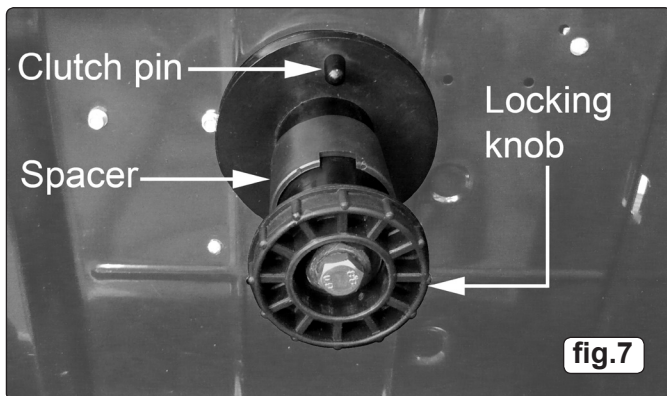
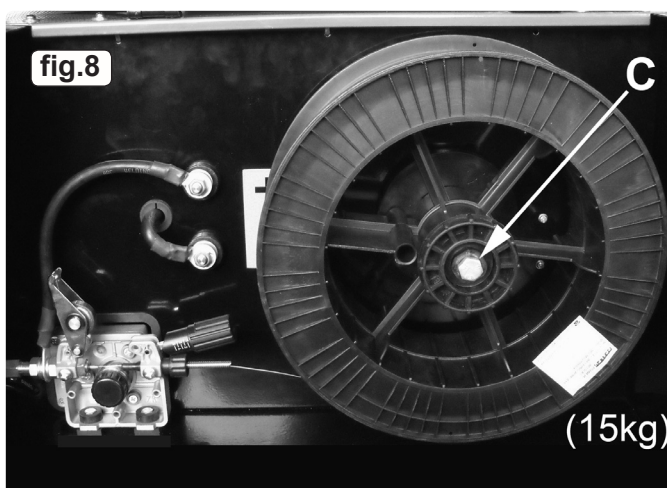

fig.7
fig.8
3.9.1 Unscrew the locking knob from the end of the spool holder (see fig.7) and remove the spacer. Slide the reel of wire onto the spool holder and ensure that the clutch pin at the back of the spool holder engages into the guide hole in the wire reel moulding. This will prevent the wire reel from freewheeling on the spool holder. When using a 5kg reel, slide the spacer onto the spool holder before refixing the locking knob. Ensure that the wire is coming off the bottom of the reel in the direction of the wire drive unit as shown in fig.8 which shows a 15kg reel of wire in place on the spool holder.
- 3.12.3 Tighten the clutch nut located in the centre of the wire spool holder with a spanner (fig.8-C) and test the machine as above until the wire stops over running.